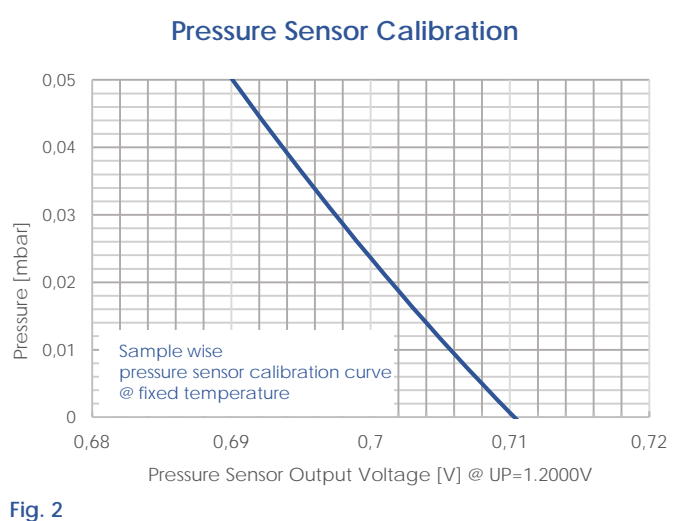

Fig. 2
**The integrated pressure sensor** allows measurement of the pressure inside the module. It works based on a Pirani principle and is used like a resistive voltage divider. Each Complete Module will be provided with an individual calibration curve (see fig. 2). Together with the on-chip integrated temperature diode, the actual inside pressure of the module can be checked. This feature is unique for PNDetector's SDD modules.